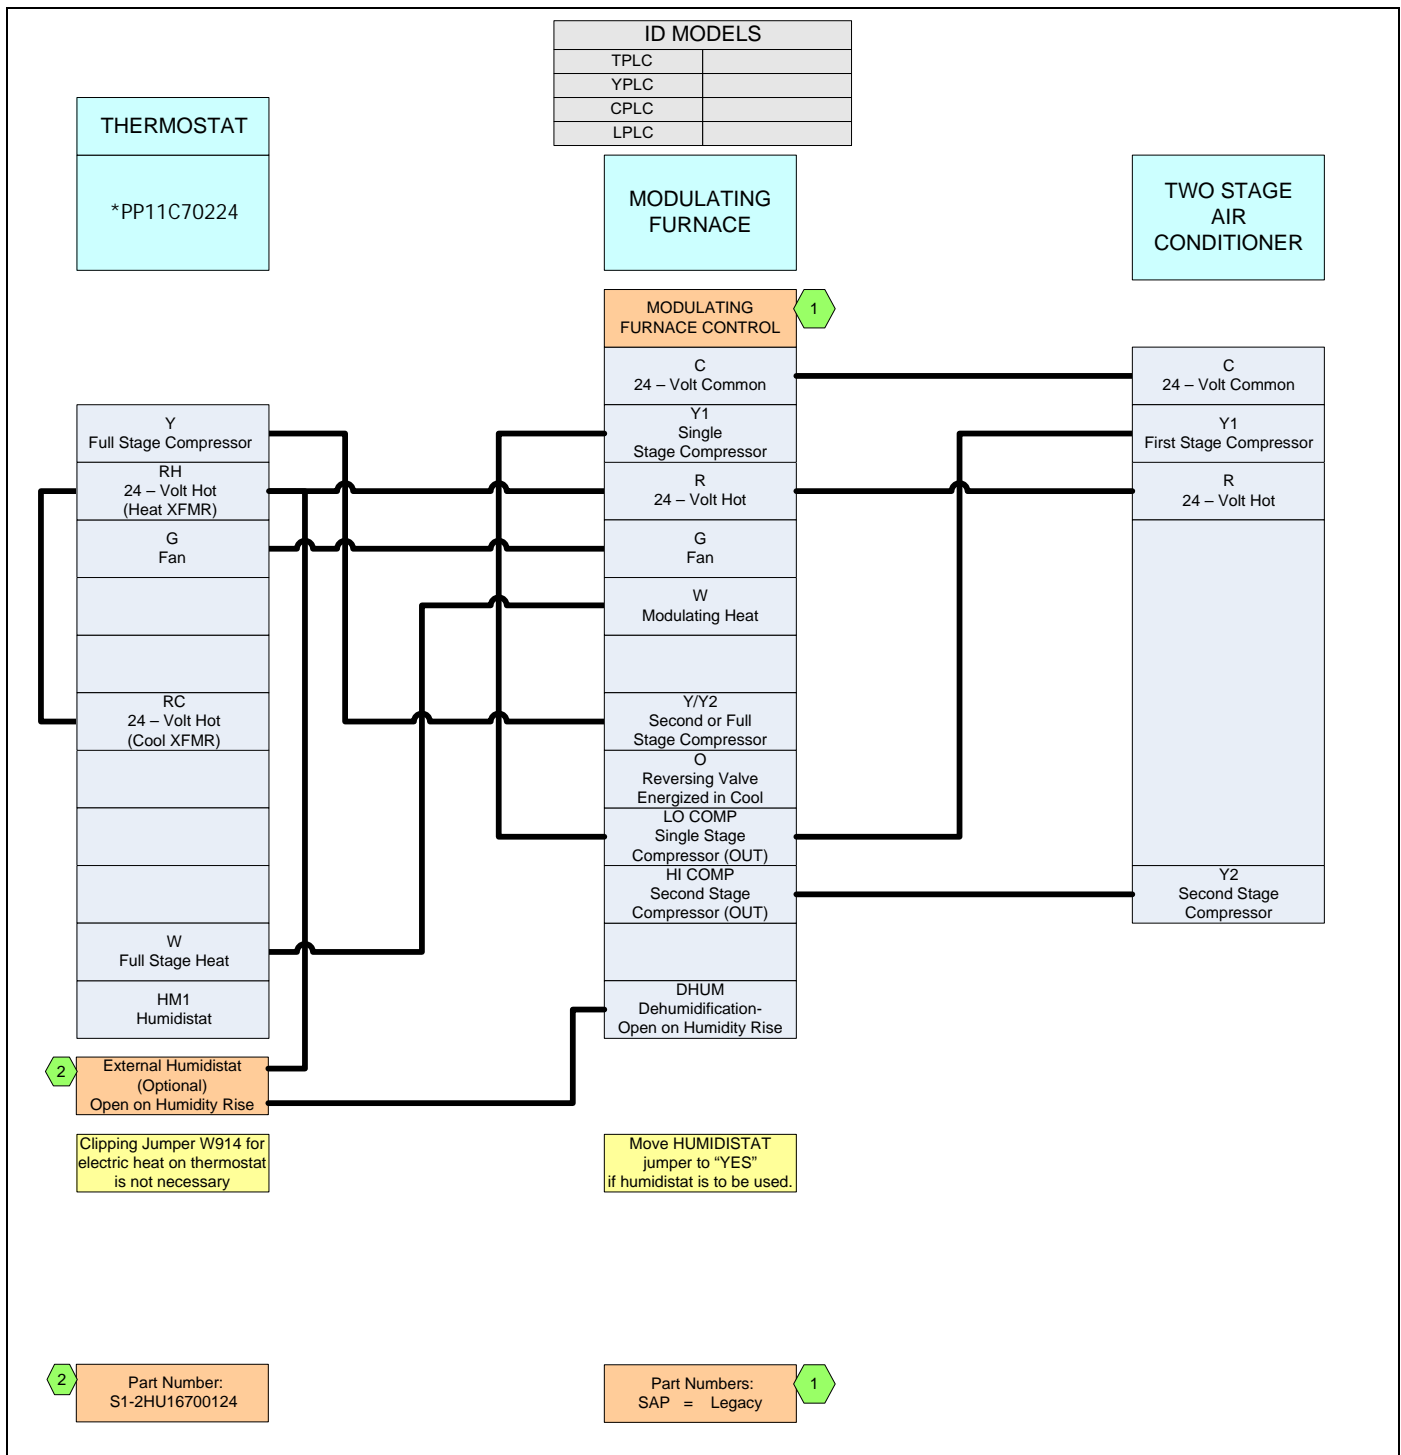

FIGURE 23: Thermostat Chart - Two Stage Air Conditioner with Single Stage Thermostat – Variable Speed or PSC Modulating Furnace
**For Two-Stage A/C using a Single-Stage Thermostat** - connect the low voltage wiring as shown in Figure 23, Thermostat Chart.